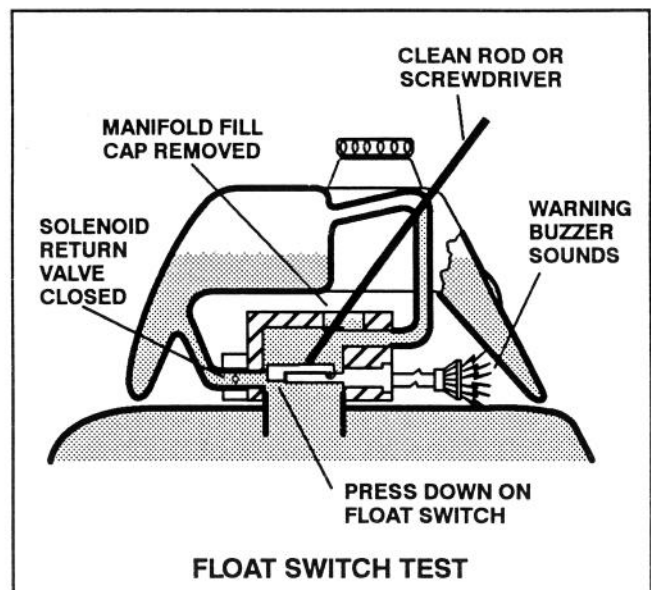

Figure 8
- D. Insert a clean rod or screw driver into manifold block and gently push down on switch float (Fig. 8). Alarm should sound after one second delay.